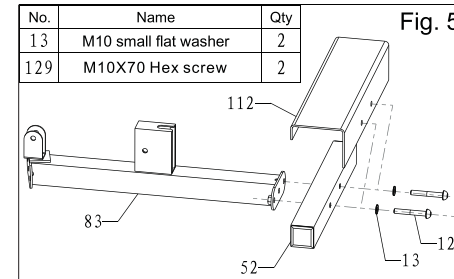

Fig. 5
Step 5: Pull rope pedal piece assembly (as shown in Fig. 5)